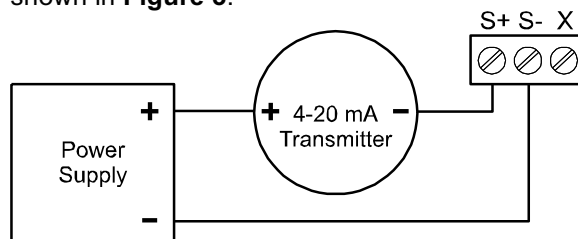
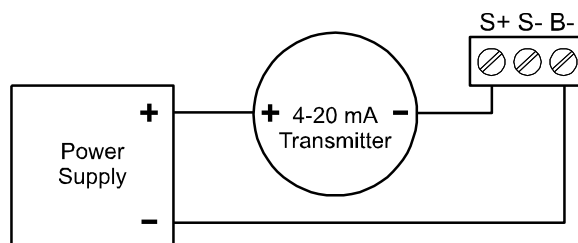

Figure 2. PD662 Input Connections without Backlight
Figure 3. PD662 Input Connections with Backlight
**Figure 2.** The loop-powered backlight configuration requires a total maximum voltage drop of 3.7 V. The backlight is recommended for dim lighting conditions and is enabled when wired as shown in **Figure 3.**